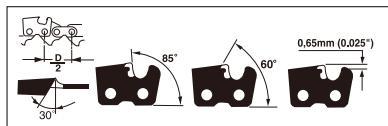
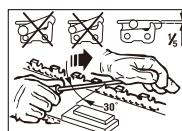

Fig. 21
Fig. 22
**CHAIN SHARPENING** - The pitch of the chain (Fig. 21) is  $3/8"$  LoPro x .050".
Always sharpen the cutters only with outward strokes (Fig. 22) observing the values given in Fig. 21.